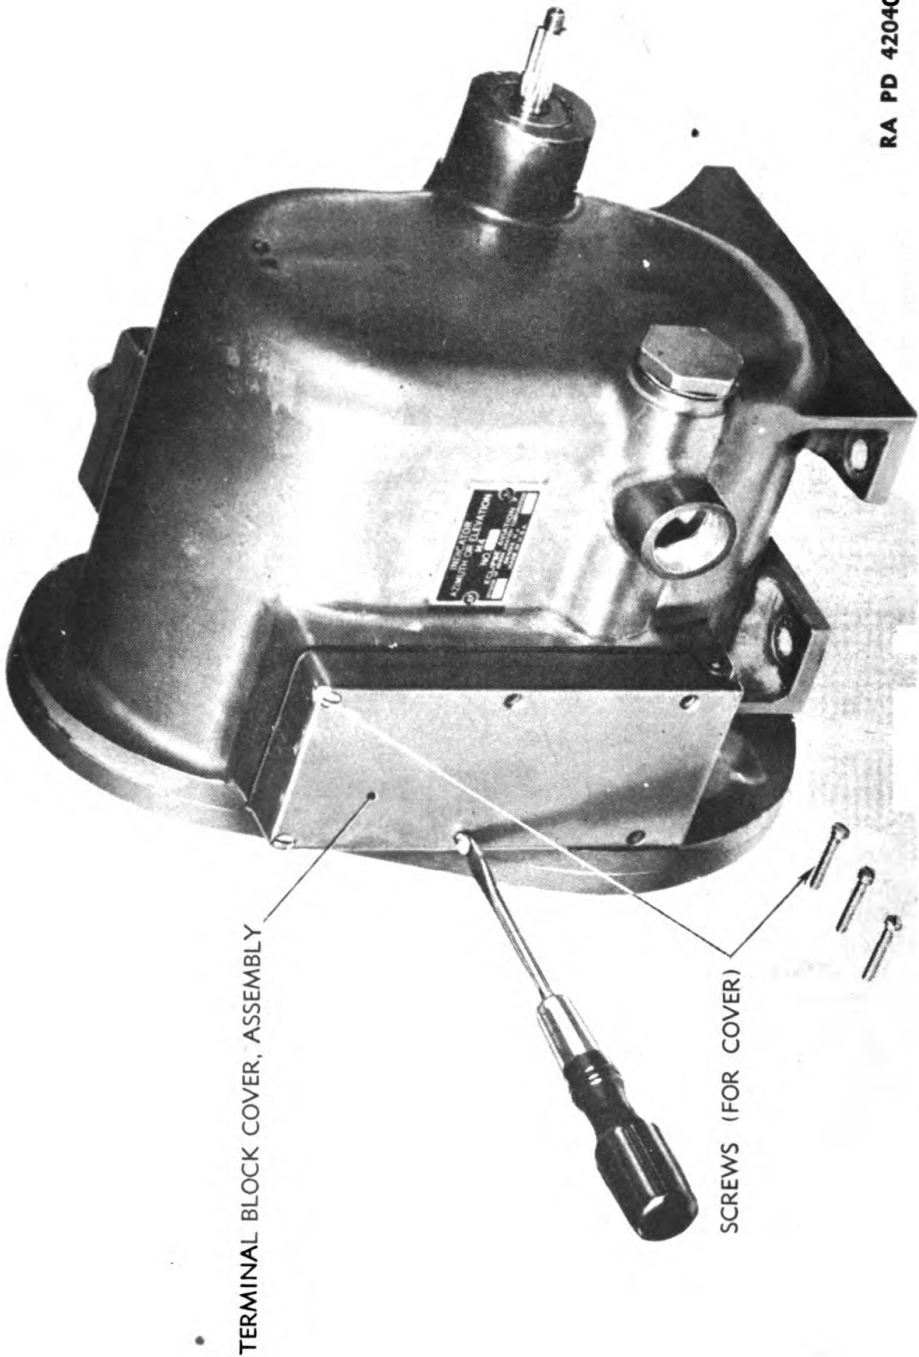

Figure 67 — Opening the Terminal Block Cover Assembly
c. Terminal Block Cover Assembly (figs. 67 to 72).
(1) LAMP REPLACEMENT.
Remove six fillister head screws in the edge of the cover (fig. 67). Open the cover. Remove the lamp shield and lamp (fig. 66). The lamp may be replaced at this stage without further disassembly of the indicator.